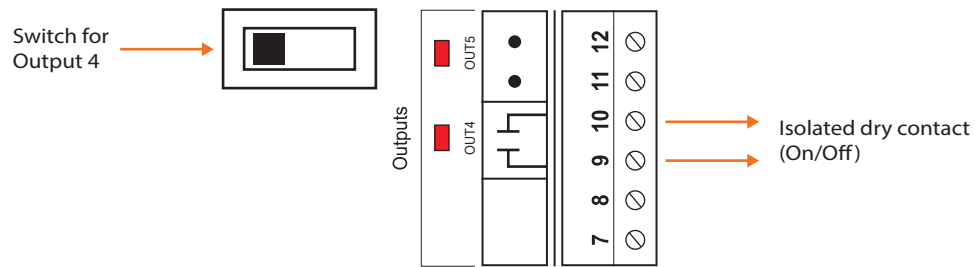

Figure 9 - Output in SINK mode
| Figure 9 - Output in SINK mode .....                                | 10 |
2) Switch position to obtain a SINK *passive output* (see Figure 9):